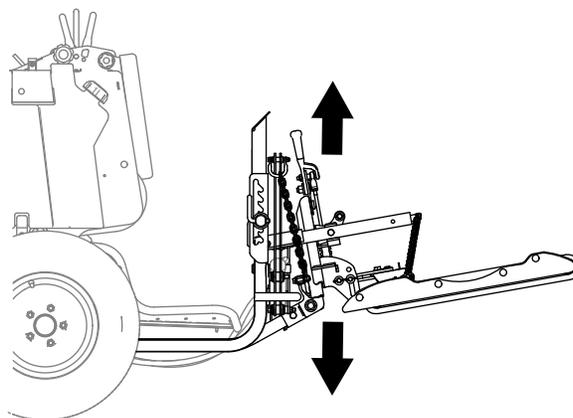

Figure 56
2. Use the rear attachment-lift control (Figure 56) to adjust the position of an optional rear attachment as follows: